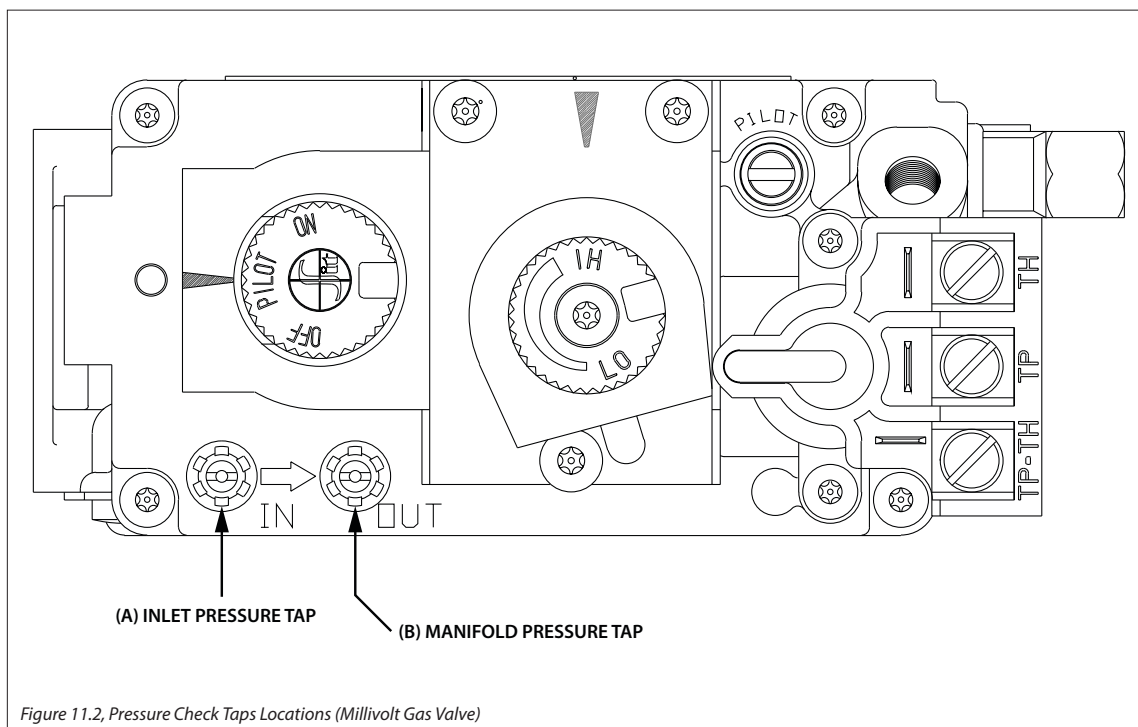

Figure 11.2, Pressure Check Taps Locations (Millivolt Gas Valve)
1. Loosen the inlet (IN) pressure tap by turning screw counterclockwise. See (A) in Figure 11.2.
8. Disconnect hose and tighten the inlet (IN) pressure tap by turning screw clockwise. Screw should be snug. Do not over tighten.
9. Relight pilot and turn the gas control knob to ON. Reattach manometer to the inlet pressure tap (A) to verify the tap is completely sealed. Manometer should read no pressure.
2. Loosen manifold (OUT) pressure tap by turning screw counterclockwise. See (B) in Figure 11.2.
7. Attach the manometer to the manifold pressure tap (B) to verify it is completely sealed. The manometer should read no pressure when the ON/OFF rocker switch is pressed to ON.